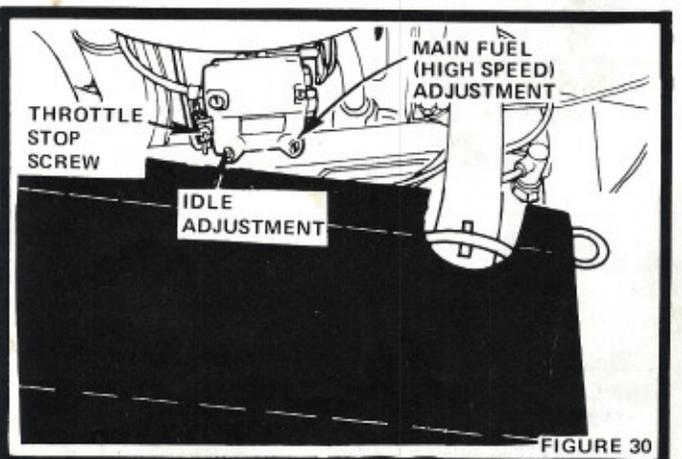

FIGURE 30
- Main Fuel (High Speed) Screw (Fig. 30) should not require adjustment. If resetting is necessary, turn clockwise, closing finger tight ONLY, then turn counterclockwise 1 - 1/2 turn.
- Turn Idle Adjusting Needle (Fig. 30) clockwise, closing finger tight ONLY, and then turn counterclockwise one turn.
- Throttle Stop Screw (Fig. 30) should not require adjustment. If resetting is necessary, set to obtain the slowest engine speed that will allow smooth acceleration.